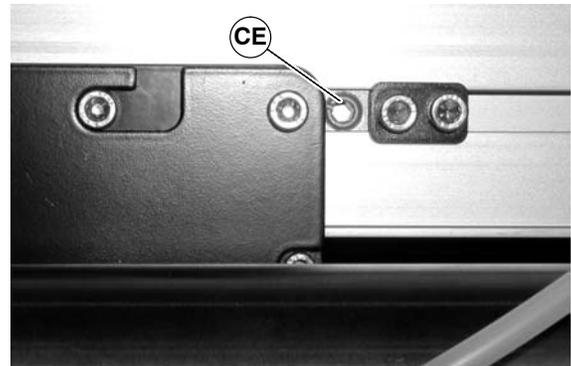

Figure 52
3. Rotate the tracking cam (CE of Figure 52) in small increments, each time inspecting the belt as it exits the center drive. Continue to rotate the tracking cam until conveyor belt is tracking normally.